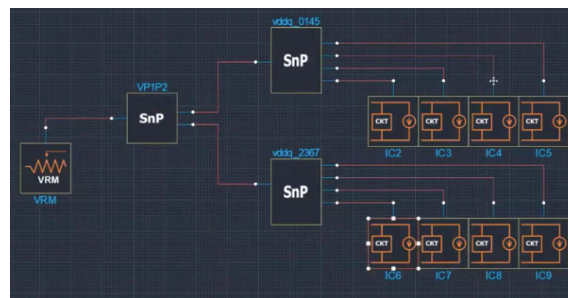

Figure 30: Bumps to be examined for power ripple
- ▶ Look at the power ripple of all the bumps (white dots) shown in Figure 30 to see what they look like.